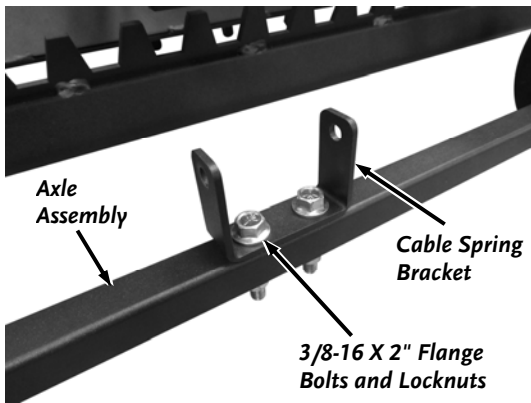

Figure 22
28. Install the Cable Spring Bracket onto the Axle Assembly with two 3/8-16 X 2" Bolts, Washers and Locknuts using two 9/16" Wrenches (**Figure 22**).